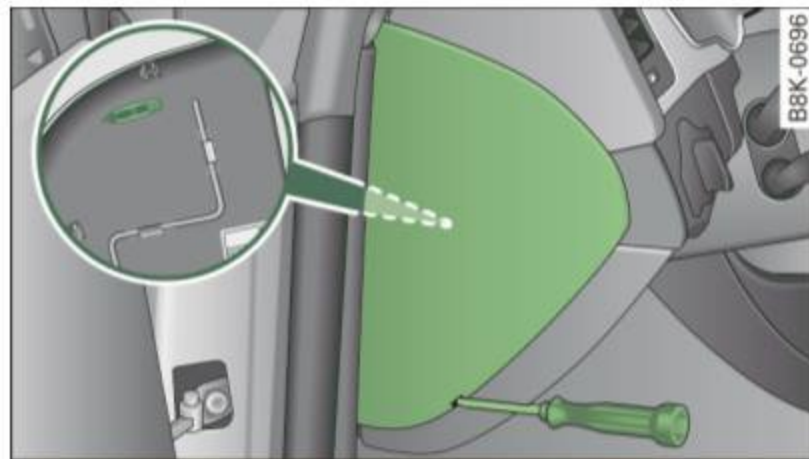

Fig. 228 Left cockpit: fuse panel cover
- Remove the appropriate cover ⇒ fig. 228 or ⇒ page 273, fig. 201.
- Remove the clamp from the rear side of the fuse cover ⇒ fig. 228.